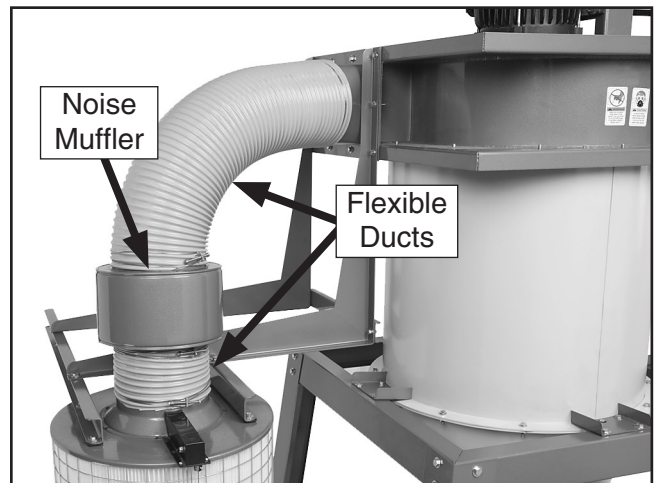

Figure 29. Ducting and noise muffler connected between blower housing and filter canister.
7. Assemble the 8" x 31 $\frac{1}{2}$ " flexible ducts, the noise mufflers, and the 8" x 4 $\frac{3}{4}$ " flexible ducts with the 8" duct clamps (see **Figure 29**).